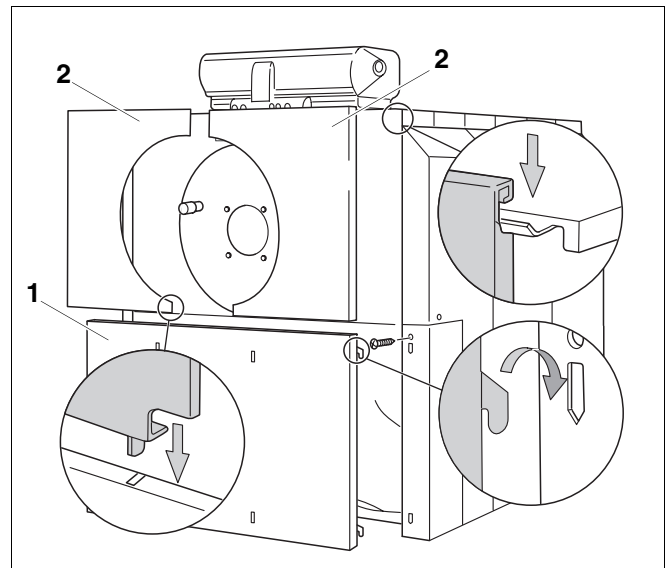

Fig. 24 Front cover panels
- Insert the thermal insulation into the lower front wall (Fig. 24, **Item. 1**).
- Hook the lower front wall with four offset hooks onto the slots of the side wall edge (Fig. 24).
- Hook the offset brackets of the top front wall (Fig. 24, **Item. 2**) into the slots of the lower front wall edge and at the top into edge of the front top cover.